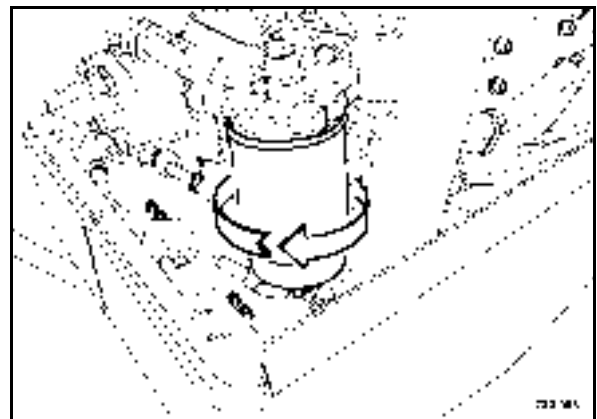

Fig. 116
- Loosen and unscrew the fuel filter cartridge (Fig. 116) using an appropriate filter wrench.